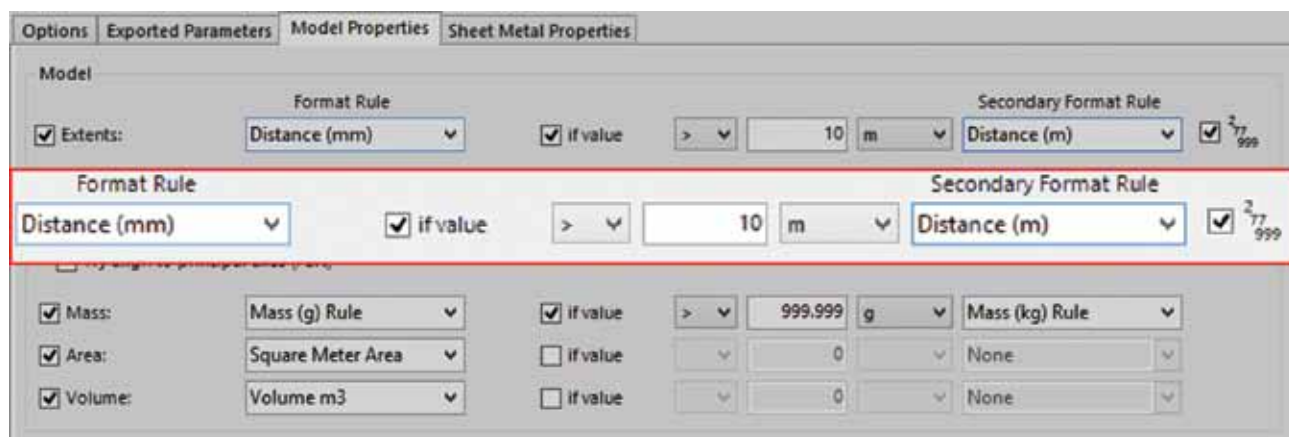

Figure 8: Exported properties secondary format rule
- All exported properties now support an optional second format rule. A single comparison operator provides the division of “primary” and “secondary” formatting (see Figure 8).